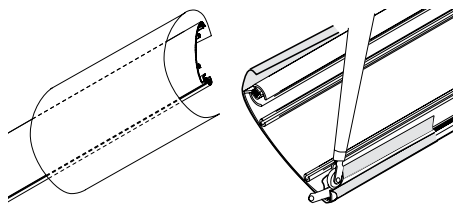

Figure 10
- ④ If covering fascia with fabric, cut fabric to size and place face down on a clean, flat surface. Place fascia face down on the fabric. Bring the fabric around over the top or bottom of fascia, and anchor in place using spline (see Fig. 10).